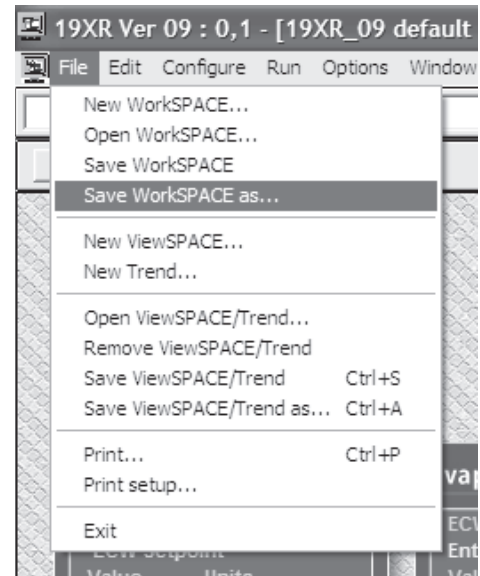

Fig. 19 — Select “Save Current WorkSPACE as”
19. From chiller display page, select “File” tab at the top of the screen, then select “Save Current WorkSPACE as” (Fig. 19).